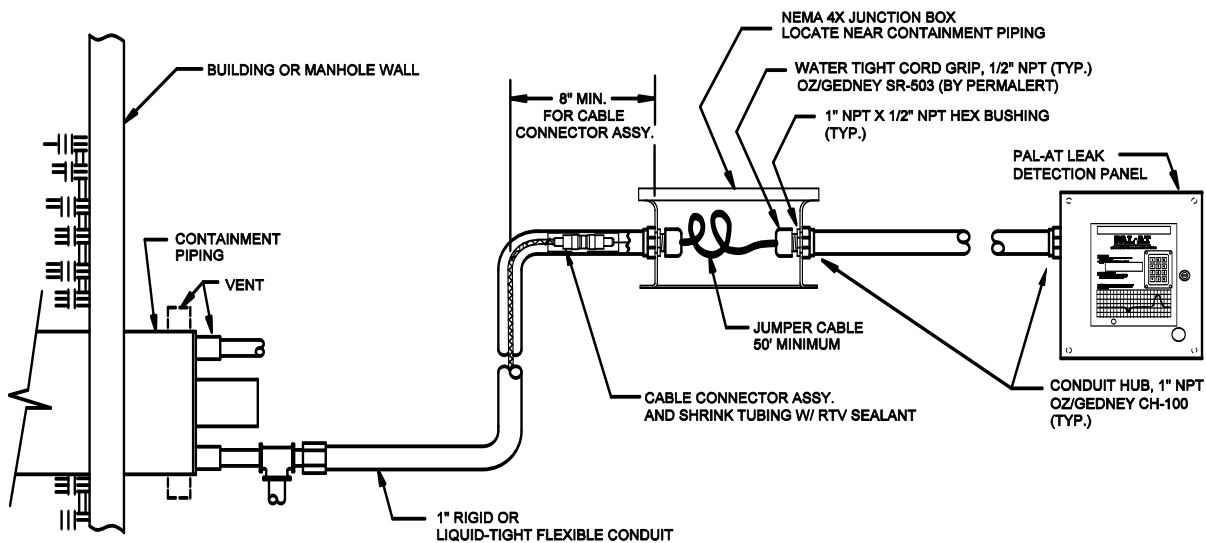

Figure 7
3. Where possible, jumper cable connections to sensor cable should be made within the monitored area. PermAlert recommends the use of OZ Gedney cord grips installed as shown in Figure 7. Cord grips must clamp only jumper cable or TFH cable. The outer braid on TFH cable must be pulled back so the cord grip is located on the smooth outer jacket.